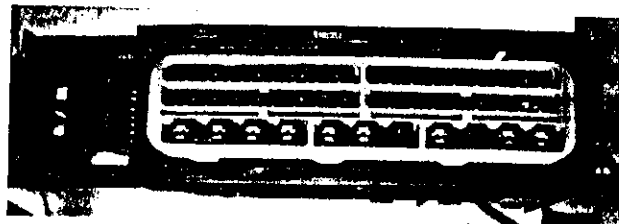

Figure 7: Different versions of secondary lock
9. Check which SBC connector housing version is installed (Figure 7).